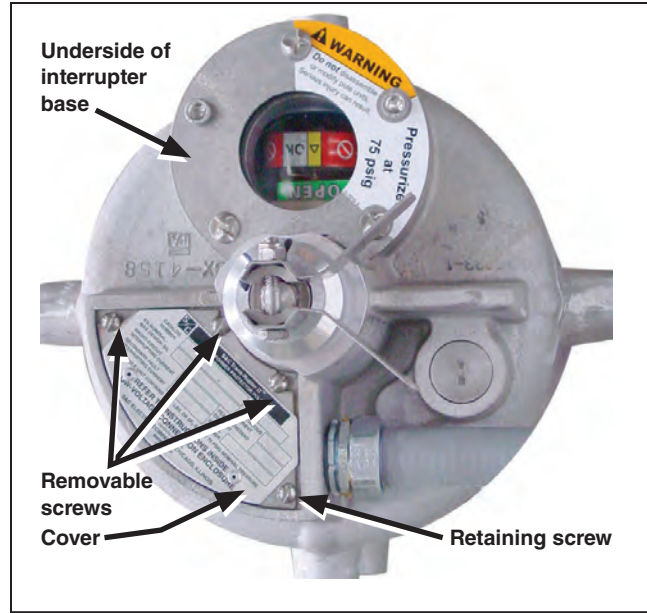
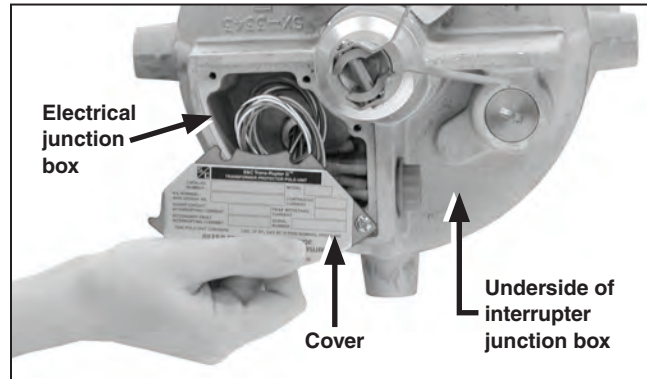

Figure 37. Remove the three removable screws at each interrupter electrical junction box cover. Loosen the fourth retaining screw.
Figure 38. Swing out the cover to access the wiring inside the electrical junction box.
**STEP 1.** Remove the three removable screws at each interrupter electrical junction box cover. Retain the screws. Loosen the fourth retaining screw. Then, swing out the cover to access the wiring inside the electrical junction box. See Figure 37 and Figure 38.